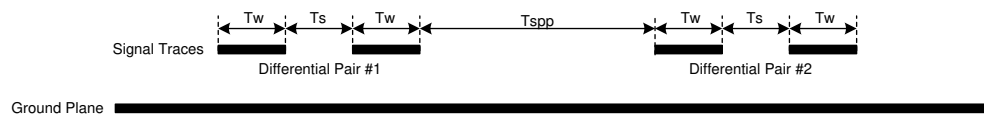

Figure 9-15. DMD Differential Layout Recommendations
DLPC6540 I/O timing parameters as well as DMD I/O timing parameters can be found in their corresponding data sheets. Similarly, PCB routing mismatch can be budgeted and met through controlled PCB routing. PCB design recommendations are provided in Table 9-7, Figure 9-15, and the paragraph below as a starting point for the customer.
- (1) Recommendations to achieve the desired nominal differential impedance as specified by R_{DIFF} in Section 6.7.
- (2) These parameters show recommendations based on the micro-strip design shown in Figure 9-15. This design minimizes signal loss to support longer trace lengths at the expense of electromagnetic interference (EMI). The designer has the option to use of a stripline design for shorter trace lengths and to target minimizing EMI at the expense of signal loss.
- (3) A reduced inter-lane spacing can be used to escape the Controller ball field, however, widen this spacing to at least the stated minimum after escape.